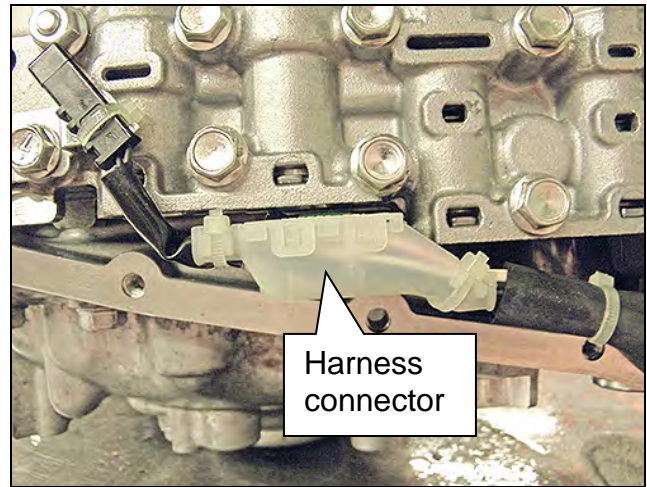

Figure 31
5. Connect the electrical harness connector (Figure 31).